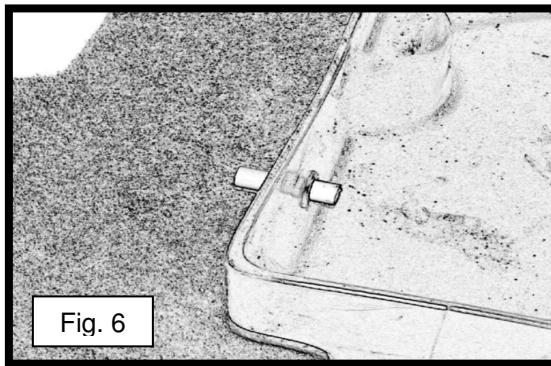
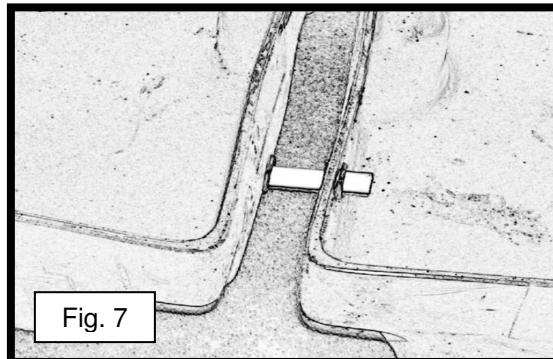

Fig. 6
Fig. 7
- 5) Gently tap on the exposed end of the Teflon tube with a plastic mallet or medium-sized hammer. **NOTE: If you receive a lot of resistance, try working the tube into the grommet a little more with your hands. Once you feel that the tube has cleared any resistance between the tube and grommet, resume tapping with the mallet or hammer and support the grommet with your fingers from the other side of the accumulation center until the tube is all the way through the grommet (see fig. 6).**
- 6) Once the Teflon-coated tube is all the way through the grommet located in the first accumulation center (see fig. 6), line up the second accumulation center grommet with the protruding tube (see fig. 7). (See instruction #4 for reference.)